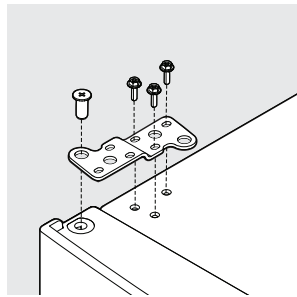

Figure 10
14. For models without the hinge cover, flip the hinge cover over and attach it using a Phillips screwdriver or 5/16" wrench (see Figure 10).